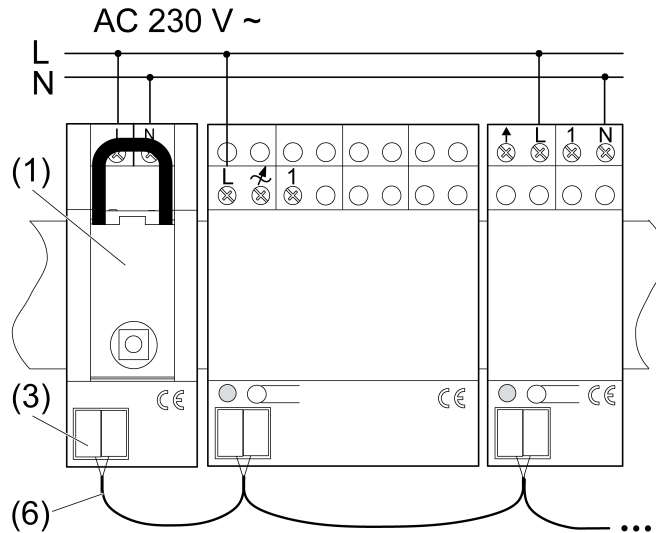

Figure 3
- Mount radio receiver (1) on DIN rail.
- Connect radio receiver according to connection diagram (Figure 3).
- Connect radio receiver with the RMD radio actuators via the connection socket (3) using a bus cable (6).